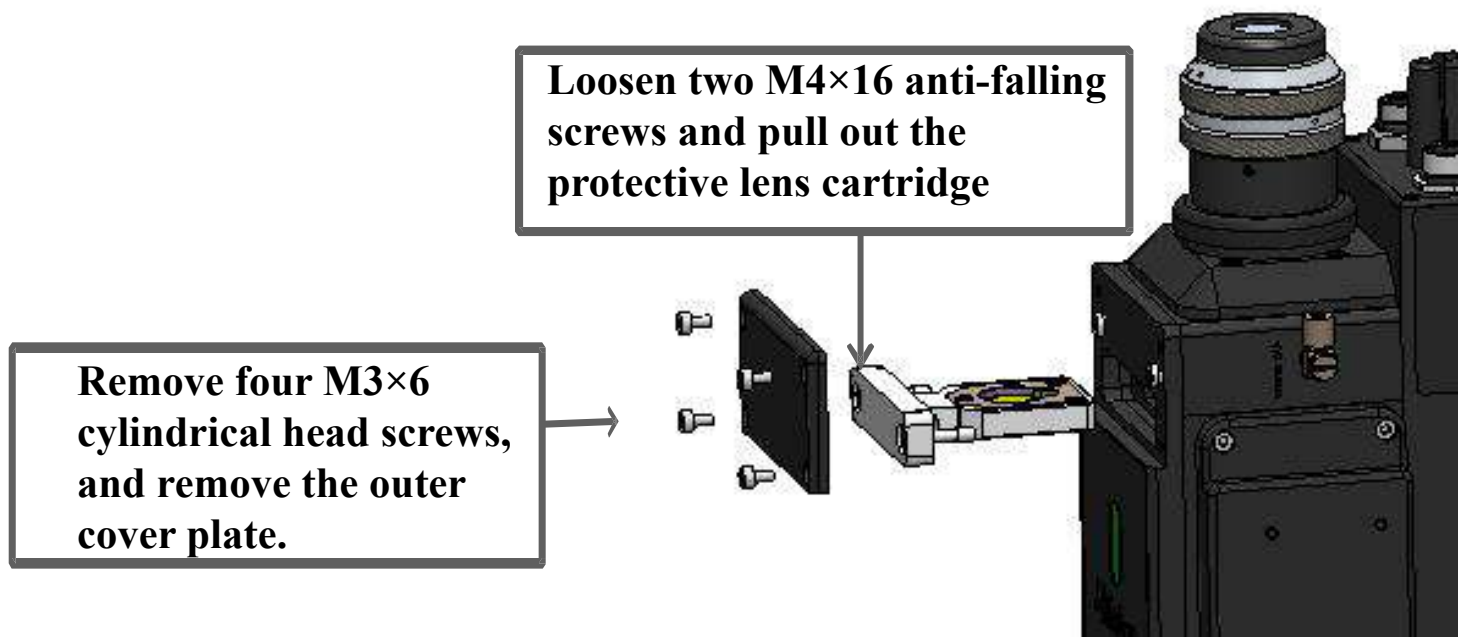

Figure 3.3
5.1.1 Disassembly and Assembly of Collimation Protective Lens, as shown in Figures 3.3 and 3.4.